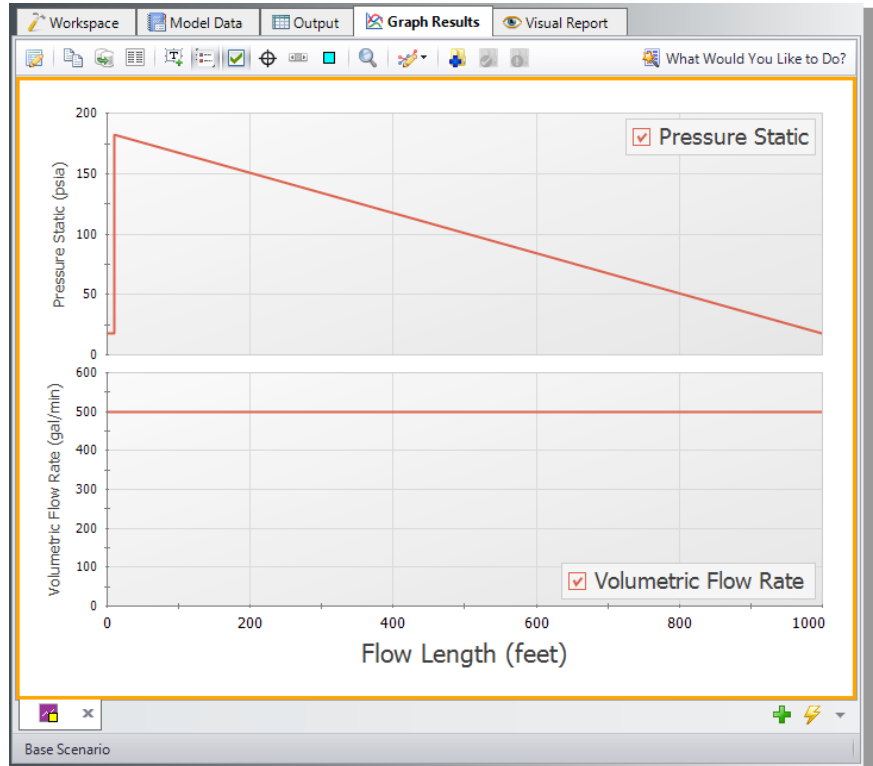

Figure 2.32 The Graph Results window showing a graph of the static pressure and volumetric flow rate along the entire length of the pipeline
- **Click Generate** to create the stacked static pressure and volumetric flow rate graphs, shown in Figure 2.32. Note that the pump adds approximately 165 psia of pressure in order to maintain a flow of 500 gal/min throughout the pipeline.